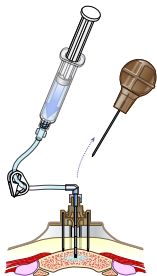

FIGURE 14
16. Flush the EZ-IO® catheter with 5-10 ml of Normal Saline. (See Figure 14)